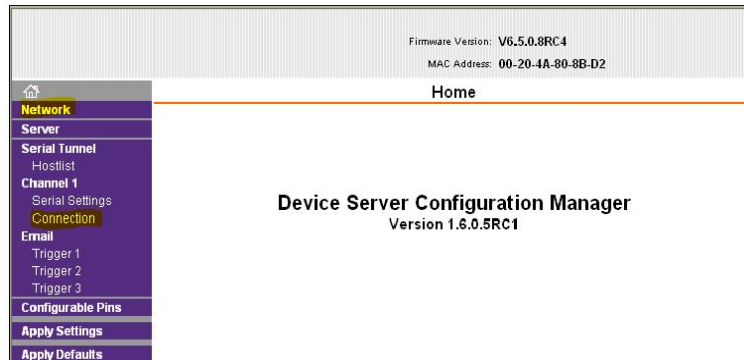

Figure 4–2 Home window (Web Manager)
3. The Web Manager displays the Home screen as shown in Figure 4–2 below. The menu displays on the left side of the window.
The "Network" and "Channel 1 Connection" menus are recommended for review (see highlighted menus in Figure 4–2). Bypass all other menus listed in the menu.